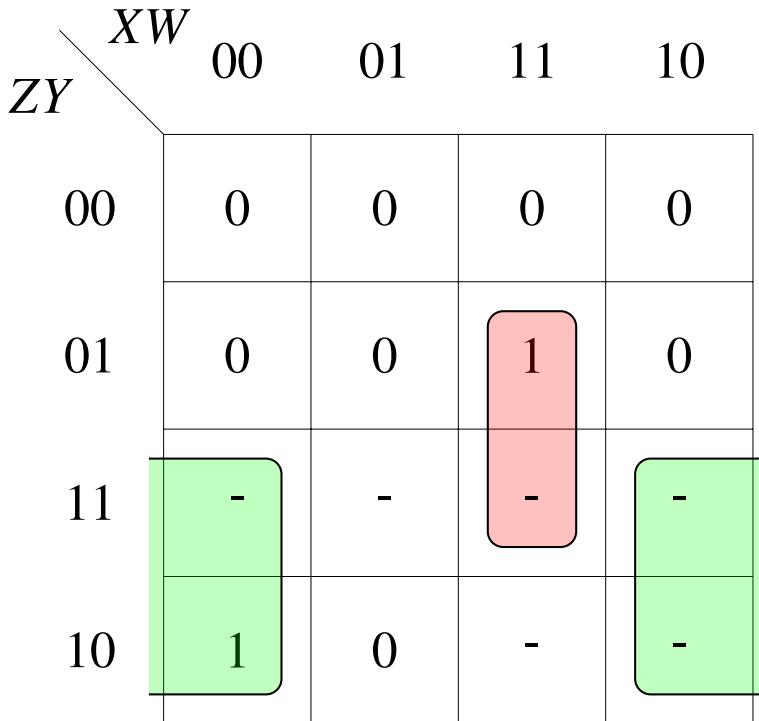

Fig. 4.8: K-map for  $D$  with don't care conditions
5. The revised K-map for  $D$  is available in Fig 4.8 Show that